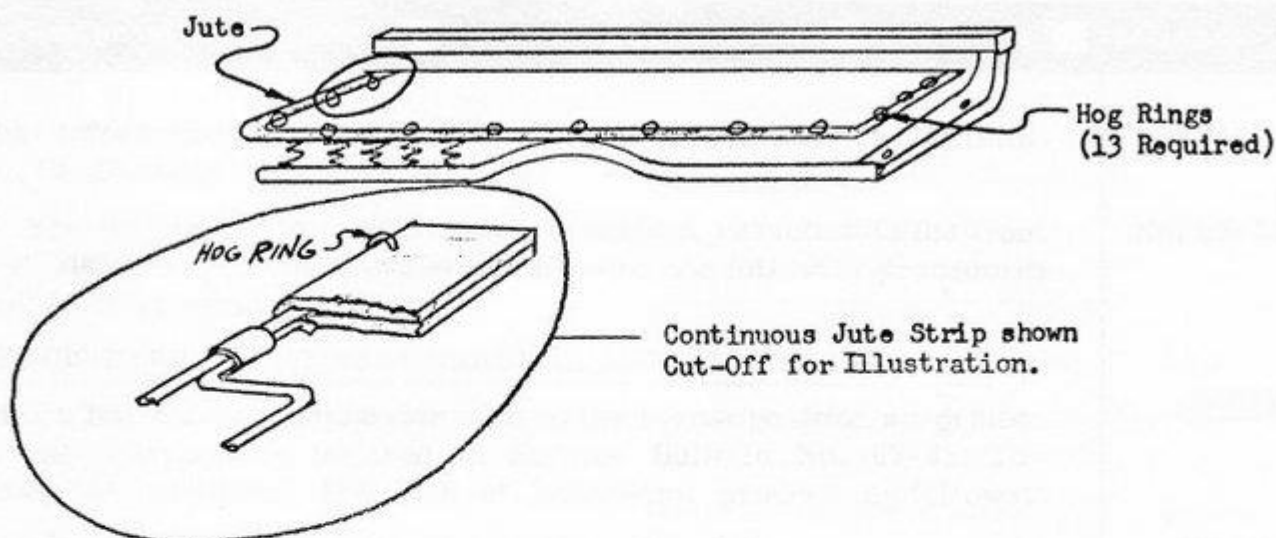

Figure 4
- (13) Using 13 hog rings fasten a 3/8" thick x 4" wide x 92" long jute pad around front and sides of the top rim wire of the cushion spring as shown in Figure 4.